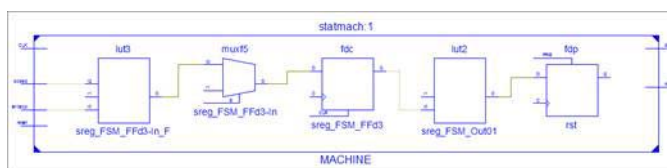

Figure 5-19: Upper Hierarchical Level
7. Press the Pop to the Calling Schematic icon to cross hierarchy in a bottom-up direction as shown in Figure 5-19.